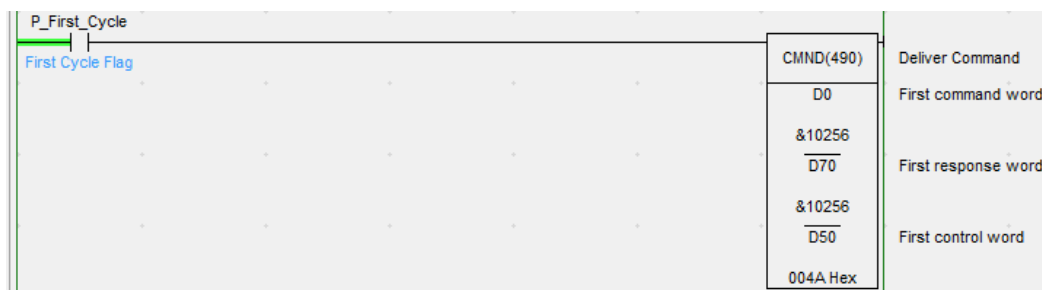

Figure 6: Ladder logic to send a command to the sensor.
The command is written to the sensor as a 32 element byte array. The first byte is the command itself, whereas bytes 1-31 hold the name of the configuration file, which only applies if the command is Load Configuration (5). Figure 6 shows simple ladder logic to send a command on the first cycle of the program.